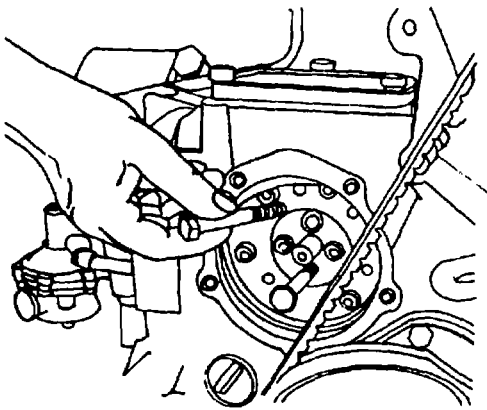

Figure 4-42. Install Camshaft Jacking Bolts
- g) Screw two M8 x 80 bolts into the empty threaded holes of the camshaft (figure 4-42).